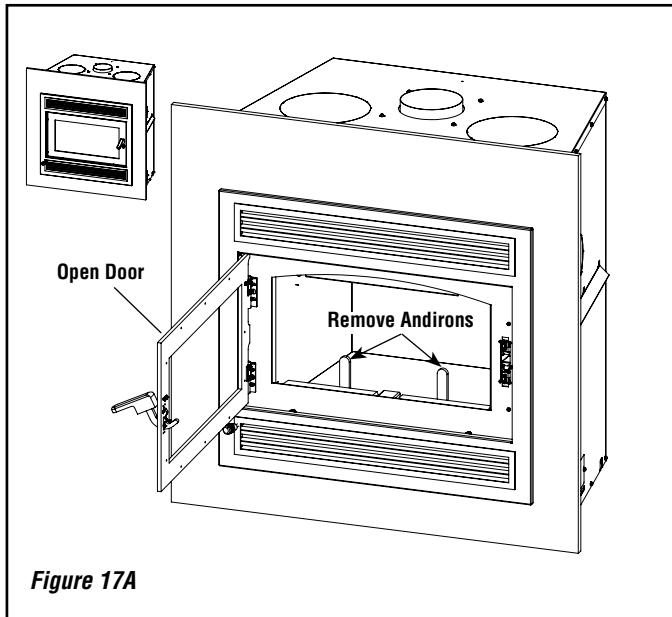

Figure 17A
2. Open the door (**Figure 17A and 17B**).
3. Remove both andirons from inside the firebox (**Figure 17A**).